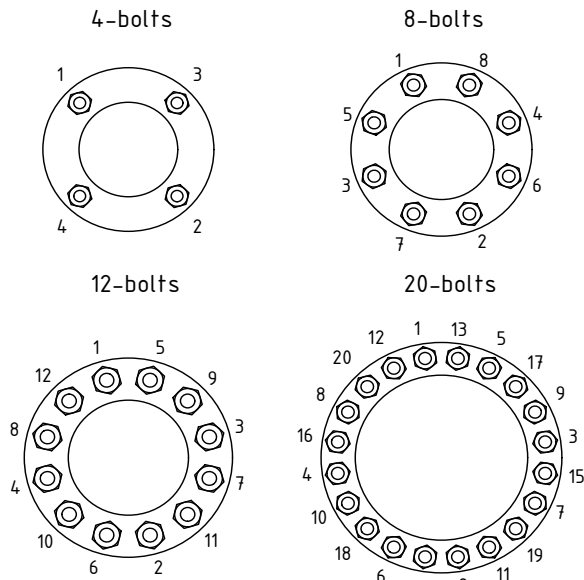

Figure 7
20. Install spiral wound body gasket (5) in the groove of the body.
21. Join the body (#1) and tail (#2), (lettering on the halves face the same direction). install and tighten the body stud nuts in the crossing pattern shown in Figure 7.